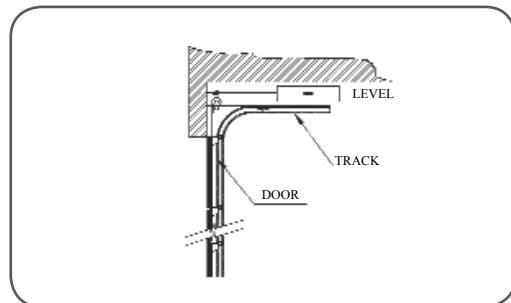

fig 04
2. Raise the door to the open position (**Fig. 04**).